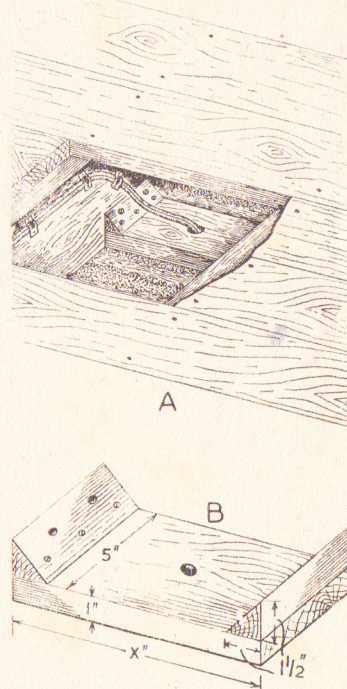

Fig. 2—Support block for heavy fittings
A good method of support into which the ceiling block can be screwed, is indicated in the accompanying illustrations at Fig. 2. In view (A) the wires are indicated passing through the support midway between the joists, and it will be seen the solid wooden block provides a means of screwing up the ceiling block in the room below which is to hold the heavy pendant.